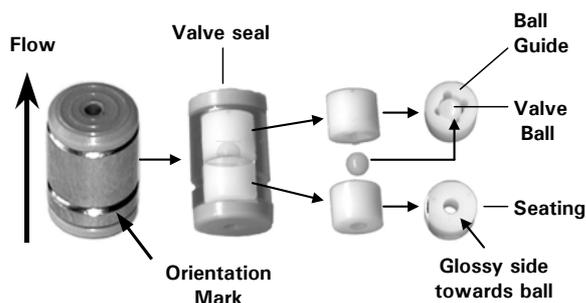

FIGURE 4-20. Check Valve Assembly
- c) To clean the individual components of the check valve cartridge, use a knife and carefully remove the valve seals from the housing (FIGURE 4-20).
Caution: Be sure to identify the glossy side of the seating and assemble the check valve (see FIGURE 4-20). Incorrect assembly can lead to damage and leakage of the check valve.